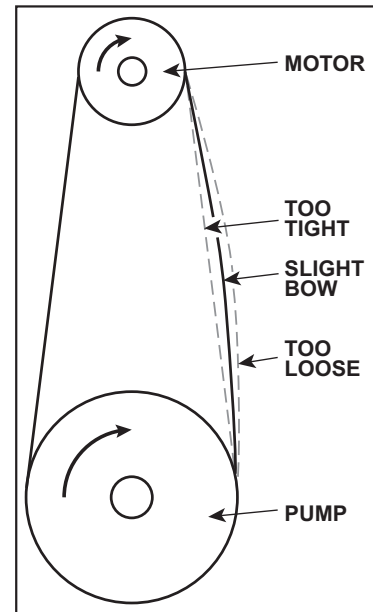

Figure 10 - V-Belt Tensioning
2. Start the drive and continue to tension the V-belt(s) until only a slight bow on the slack side of the drive appears while operating under load conditions as shown in Figure 10.